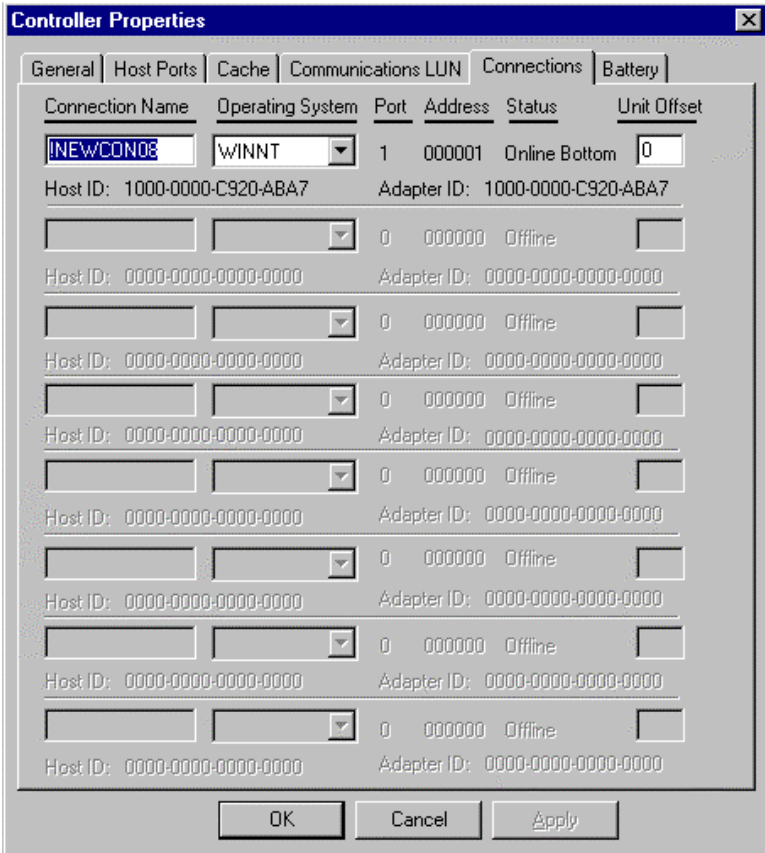

Figure 2-11. Connections controller properties tab
5. Click the *Communications LUN* tab (Figure 2-11).